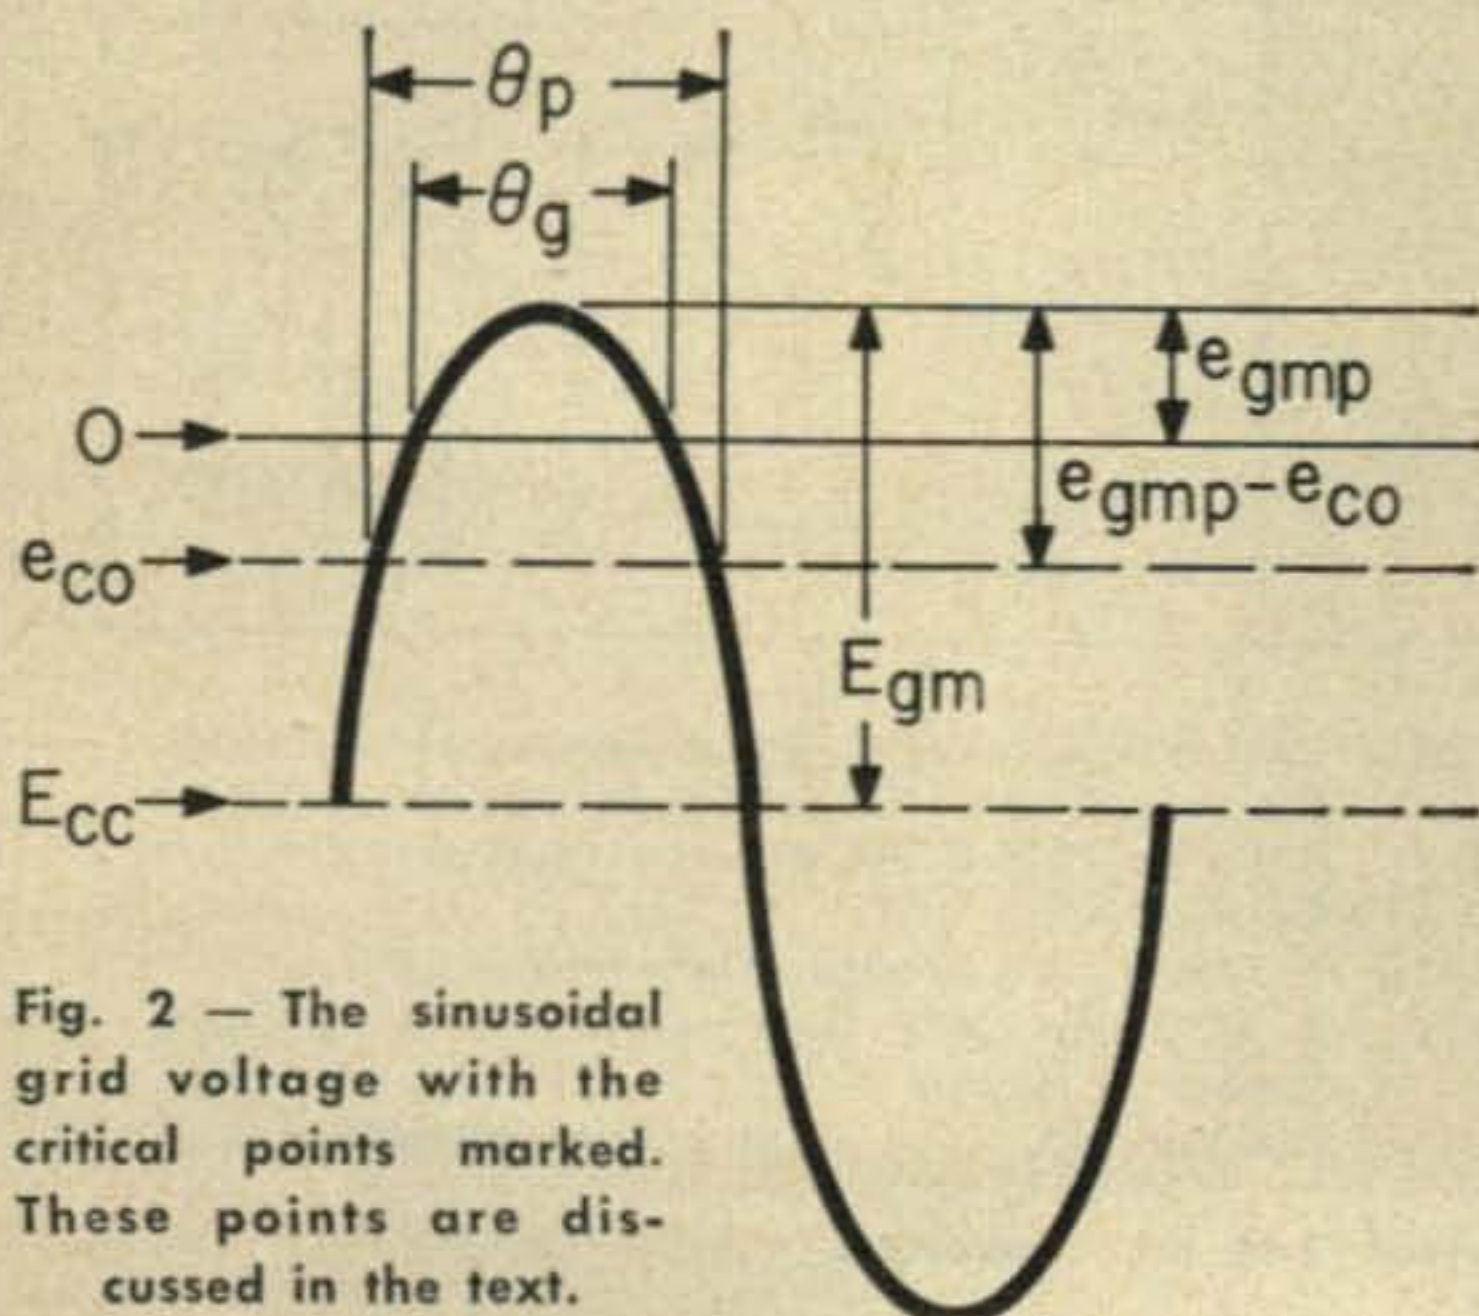

Fig. 2 — The sinusoidal grid voltage with the critical points marked. These points are discussed in the text.
A sinusoidal grid driving voltage is shown in fig. 2. The grid voltage  $e_{co}$  is the value for plate current cut-off, and is assumed constant for simplicity. The voltage  $e_{gmp}$  is the peak positive value of grid voltage. The angle during which plate current flows is  $\theta_p$ . If  $M\theta_p$  ( $M$  being the order of multiplication) and  $e_{gmp}$  have the same values for a multiplier and amplifier, the same plate efficiency can be expected for the two cases. The peak rf voltage,  $E_{gm}$ , needed for drive will be given by
- L3 #30 Nyclad closewound to occupy 1/2" of winding space on a 3/8" coil form (Cambion LS-5) (See fig. 2 for construction details) Red Dot Core
Fig. 2—Construction details for  $L_3$ . Further information is given in the Coil Data in fig. 1. In tuning  $L_3$ , the powdered iron slug is varied so that it meshes only the collector end.